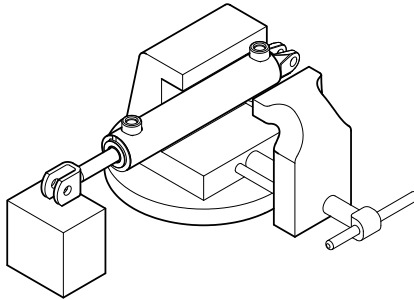

Figure 5-3, Cylinder Vise
2. Check wear blocks for damage. Re-shim as necessary to limit stabilizer arm side-to-side movement to 1/8" to 1/4". See Figure 5-3.
2. Clamp the cylinder lightly at the base end in a soft-jawed vise. Use a block or other support under the rod end of the cylinder. (Figure 5-3)